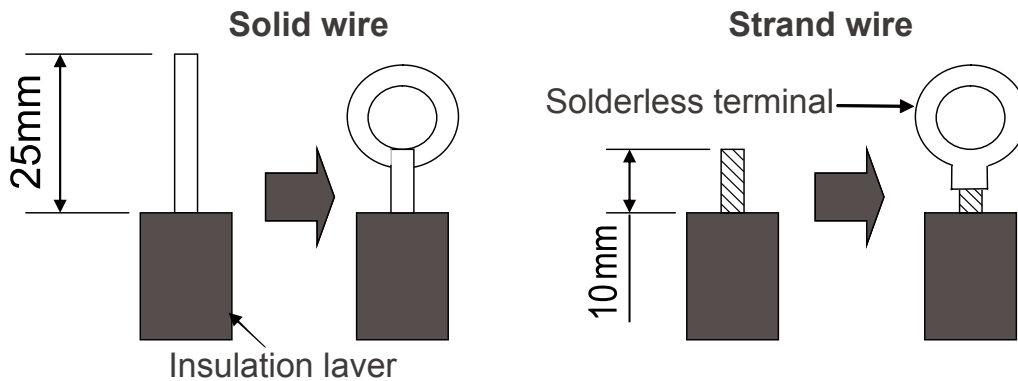

Fig.29
1. For solid core wiring (Fig.29)
2. For strand wiring (Fig.29)